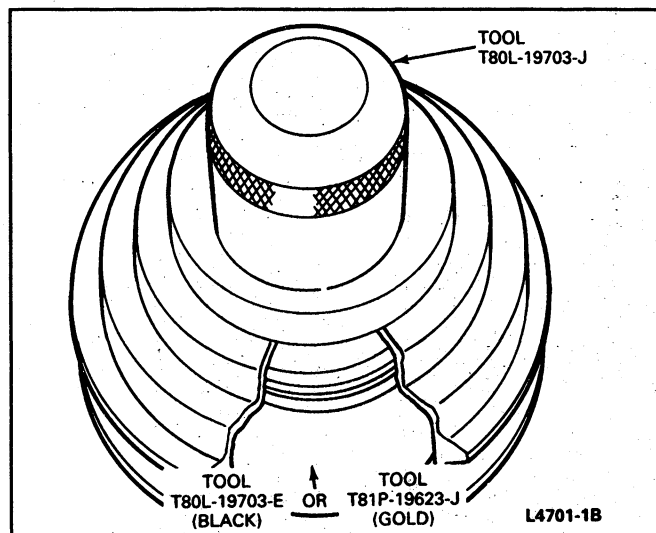

FIG. 11 Clutch Pulley Bearing—Removal
3. Position the largest opening of Clutch Pulley Support T81P-19623-J (Gold Colored) or equivalent over the hub of the pulley to support the pulley. Then, drive the bearing from the pulley with Pulley Replacer T80L-19703-J or equivalent as shown in Fig. 11.